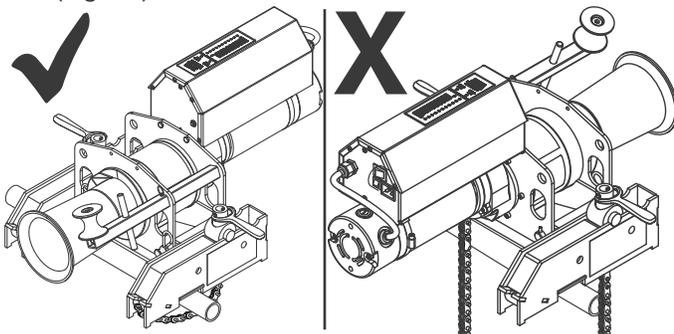

Figure 28: Puller Orientation on Chain Mount
7. Lift the puller into the cradle of the chain mount so the right-angle sheave is furthest away from the conduit opening and the capstan is over the conduit. (Fig. 28)